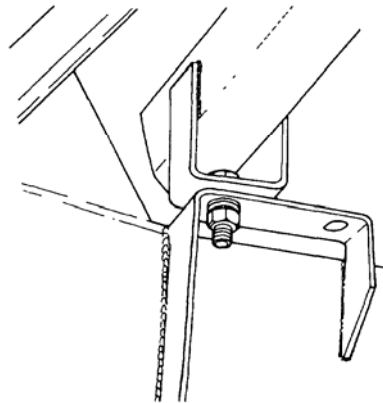

Figure 18 Removal of the Body Support Brace
- uu. Remove the bolts, nuts and washers securing the rear body support brace to the chassis frame (Figure 18).
- j.** Install the nuts, washers and bolts retaining the rear body support brace to the chassis frame (Figure 18).